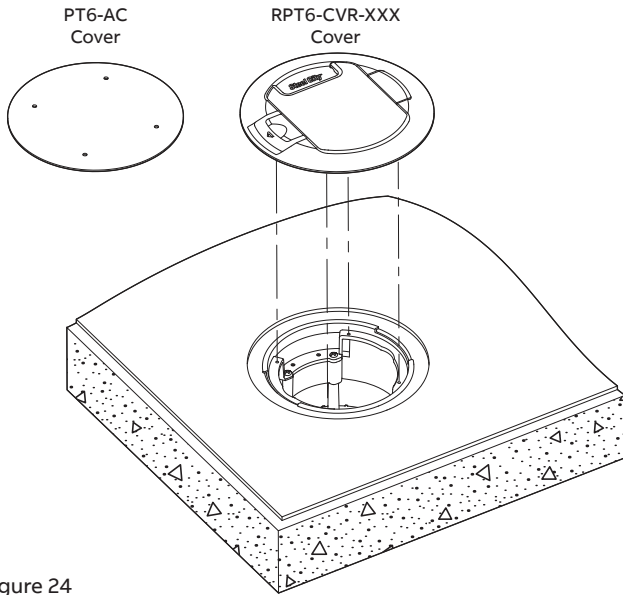

Figure 24
- 9.1 ABANDONMENT/TEMPORARY COVER PT6-AC (sold separately). Install to protect Poke-Through and Devices during construction and until debris is cleared. Remove and install RPT6 Cover to activate floor box (Figure 24).